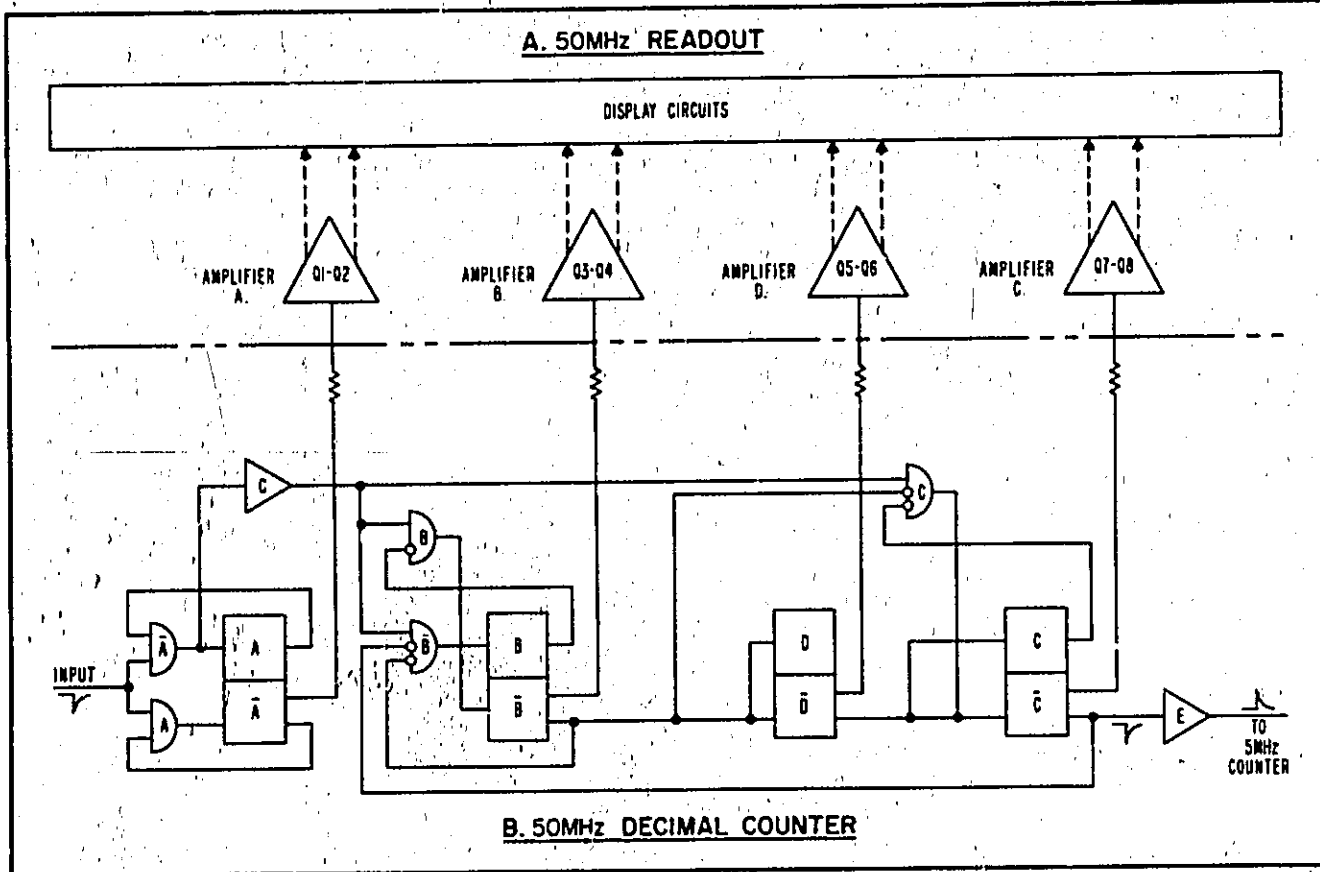

Figure 2-16. 50 MHz Readout and 50 MHz Counter Block Diagram
**2-81. GENERAL.** The 50 MHz decimal counter assembly is shown in Figure 2-16. Operation of basic circuits is discussed in the Paragraphs listed in Table 2-3. Circuit details are given in the schematic diagram, Figure 7-13.
**2-82. GATED INPUT.** Five AND gates route the input signal to the proper transistor base for each count; feedback is not used. Each of these gates is labeled to indicate the results of an input pulse passed by that gate. For example, the first input pulse is passed by gate A (diode gate A is forward biased by the negative collector voltage of transistor  $\bar{A}$ ). This negative pulse turns off transistor  $\bar{A}$  which turns on transistor A. In the same way gate  $\bar{A}$  passes the second pulse turning on transistor  $\bar{A}$ . On counts 2, 4, 6, 8, and 0 (10) the input pulse passed by gate  $\bar{A}$  is amplified and applied to the inputs of gates B,  $\bar{B}$ , and C. Gate B conducts when both an input pulse is present and transistor B is not conducting (this occurs on counts 2 and 8). Gate  $\bar{B}$  conducts when both an input pulse is present and transistors  $\bar{B}$  and  $\bar{C}$  are both turned off (this